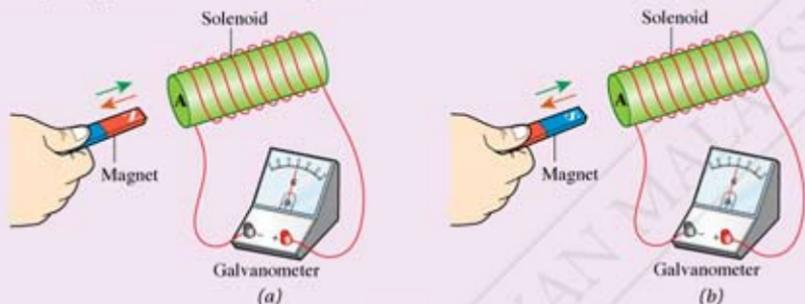

Figure 4.27
1. Set up the apparatus as shown in Figure 4.27.
2. Move the north pole of the bar magnet as shown in Figure 4.27(a):
4. Move the south pole of the bar magnet as shown in Figure 4.27(b):